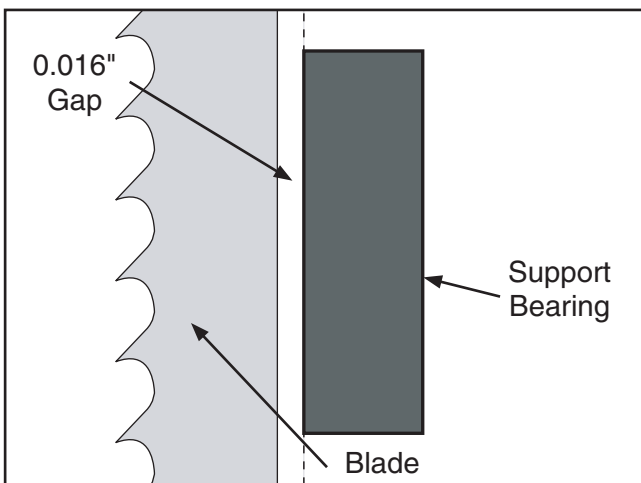
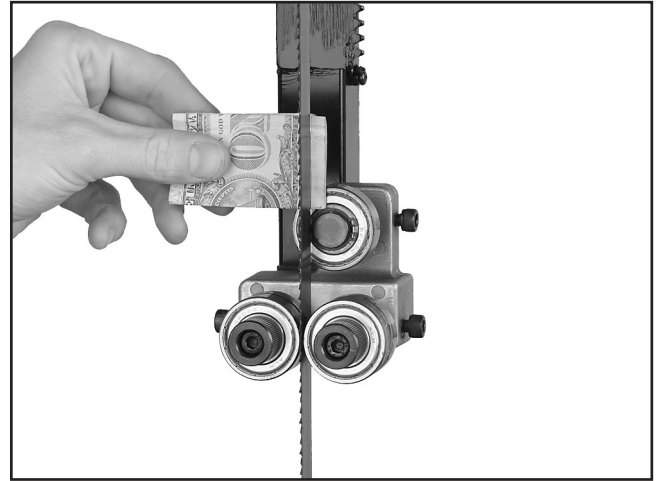

Figure 28. Blade aligned 0.016" away from the bearing edge.
Figure 29. Example of dollar bill folded twice to make an approximate 0.016" gauge.
- Using a feeler gauge between the support bearing and the blade, position the bearing 0.016" away from the back of the blade, as illustrated in **Figure 28**.
Note: For a quick gauge, fold a crisp dollar bill in half twice (four thicknesses of a dollar bill is approximately 0.016") and place it between the support bearing and the blade as shown in **Figure 29**.
7. Using a feeler gauge, position the bearing 0.016" away from the back of the blade, as illustrated in **Figure 28**, or use a dollar bill, as shown in **Figure 29**.